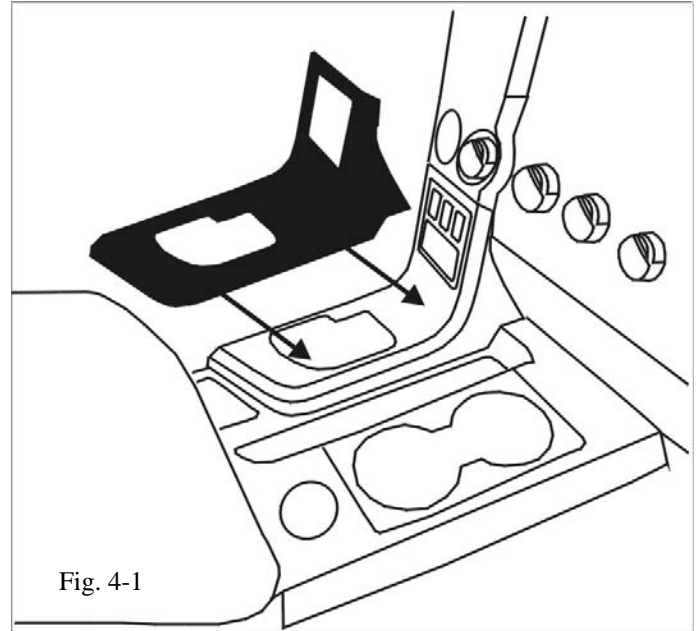

Fig. 4-1
(3) Align part uniformly to the edge of factory door component aligning all switch openings. (Fig. 4-1)